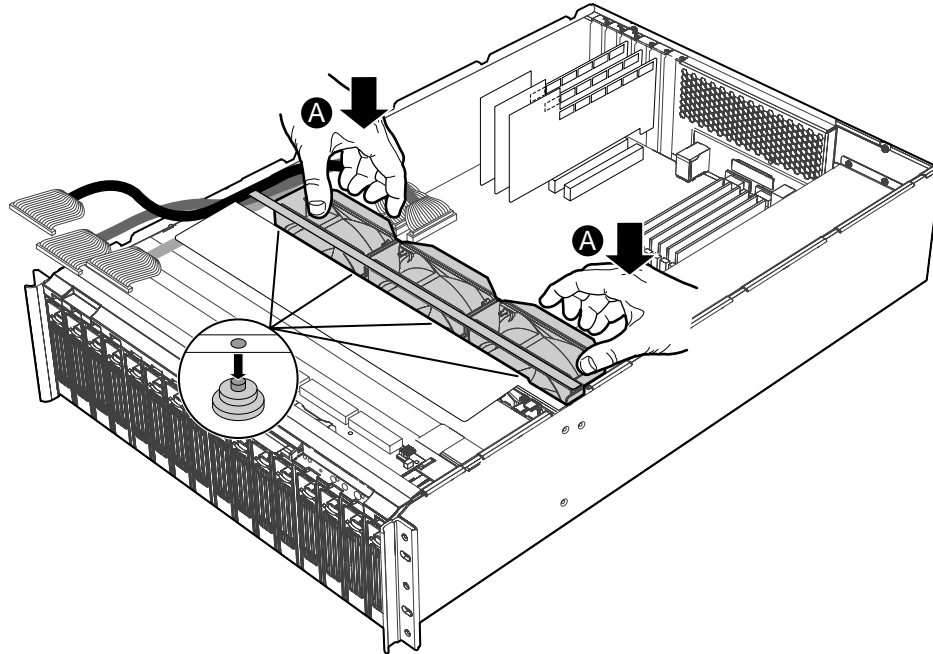

Figure 36. Re-inserting the Fan Assembly into the System
- A. Remove any slack wires away from the space that is occupied by the fan assembly. Align the holes on the bottom edge of the fan assembly with the blue plastic brackets on the bottom of the chassis. Move the fan assembly into place. See Figure 36.